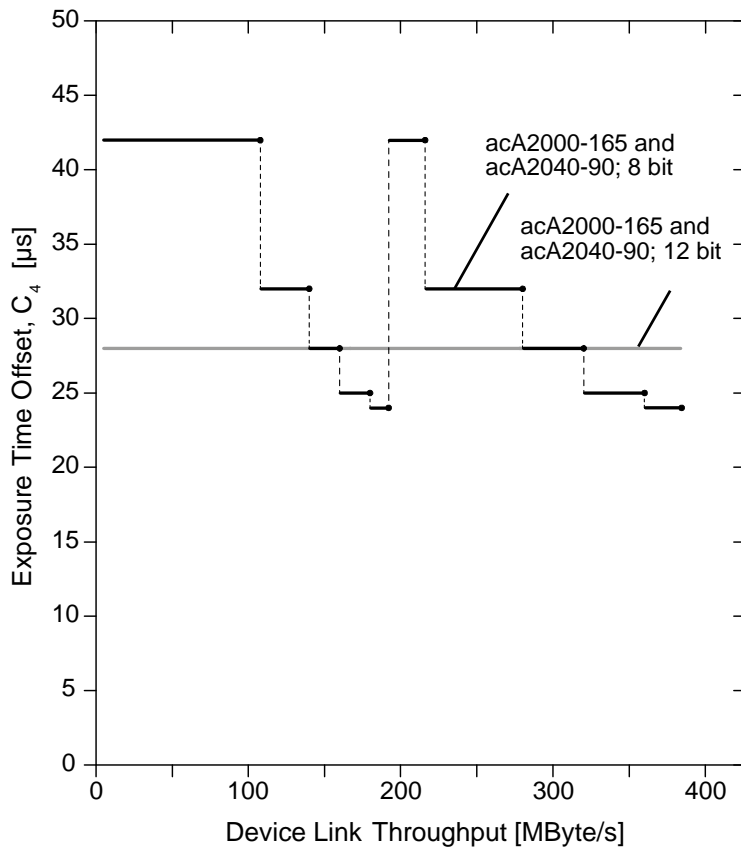

Fig. 58: Exposure Time Offsets Depending on Device Link Throughput (acA200-165u and acA2040-90u Cameras Only; All 8 bit- and 12 bit-Pixel Formats)
For exposure time offsets,  $C_4$ , and their dependencies, see Table 32 and Figure 58.
1. Subtract the value for  $C_4$  (see Table 32 and Figure 58) that applies to your camera model, from the wanted exposure time.